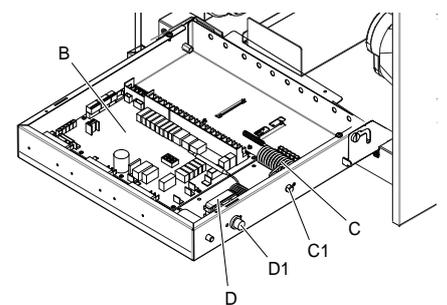

fig. 21 - internal view of the electric box
- B Electronic hydronic board (fig. 21)
- C Safety thermostat for DHW cylinder single-phase electric heater (TBH) with manual reset button (part. C1 fig. 21)
- D Safety thermostat for system single-phase electric heater (IBH) with manual reset button (part. D1 fig. 21)